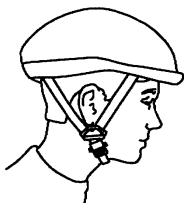

Fig. 8 Always wear a helmet
4. **Always** wear a cycling helmet which meets the latest safety approvals. (See Fig. 8)